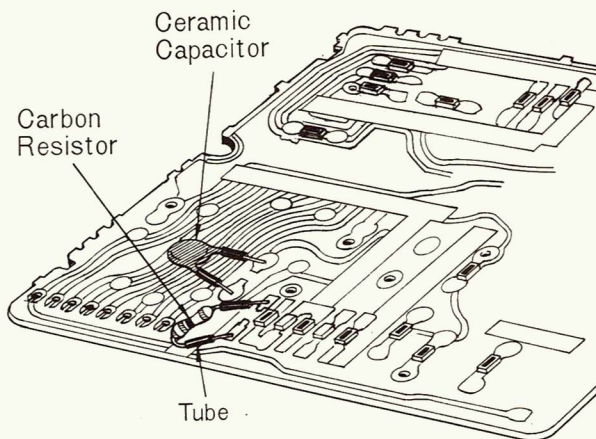

Fig. 30
3. Use tube for service parts as shown in fig. 30 and solder service parts according to following table. (please refer to Circuit Board Wiring View for the value of resistor and capacitor).